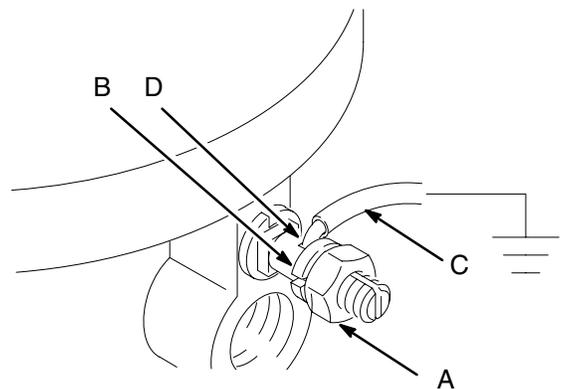

Fig. 1
1. *Pump:* use a ground wire and clamp as shown in Fig. 1. Loosen the grounding lug locknut (A) and washer (B). Insert one end of a 12 ga (1.5 mm²) minimum ground wire (C) into the slot in lug (D) and tighten the locknut securely. Connect the other end of the wire to a true earth ground. Order Part No. 333022 Grounding Wire.